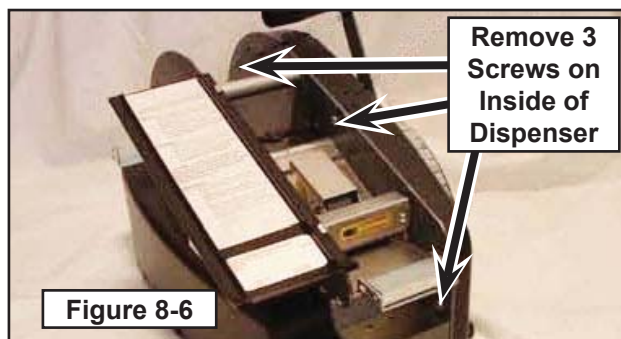

Figure 8-6
3. Open the top cover (**Figure 8-6**).
6. Remove three screws on inside of dispenser (**Figure 8-6**).